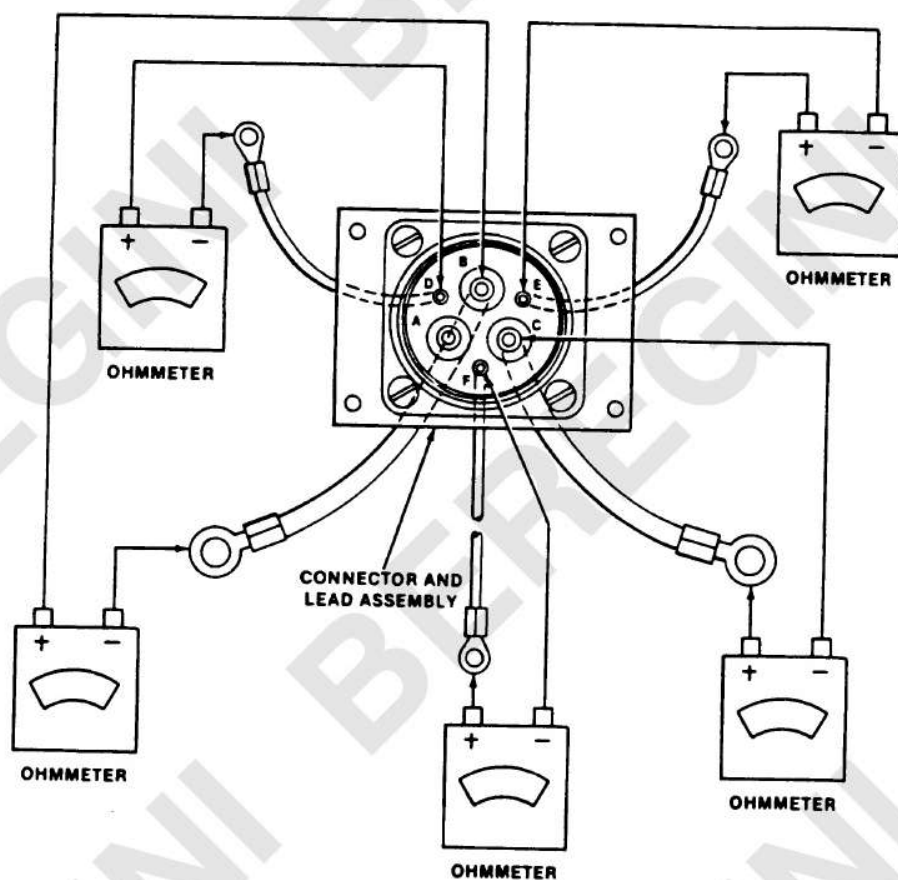

Figure 2-6. Connector Pin and Lead Continuity Check.
Step 8. Check continuity of pins and leads in connector assembly according to figure 2-6.